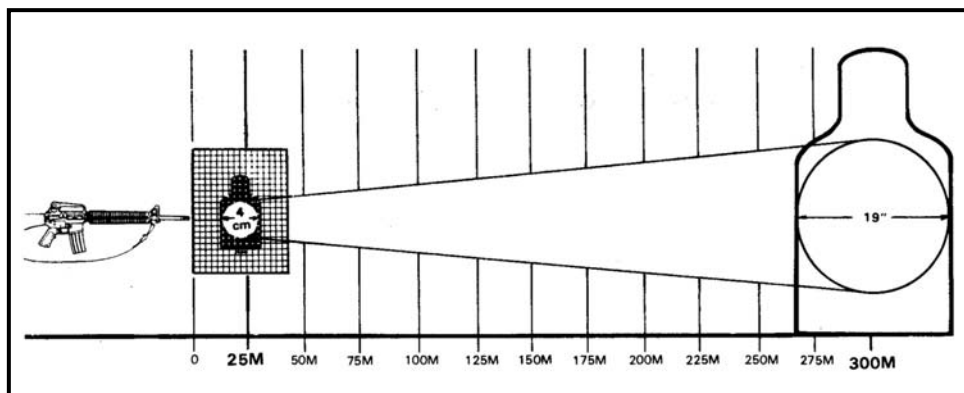

Figure 5-25. The 25-meter zero standard.
k. **25-Meter Zero Standard** (Figure 5-25). A standard E-type silhouette is 48.26 centimeters wide; a circle (angle) that is 48.26 centimeters at 300 meters is 4 centimeters at 25 meters. A soldier who can fire all bullets in a 4-centimeter circle at 25-meters and adjusts the sights for zero will hit the target at all ranges out to 300 meters.